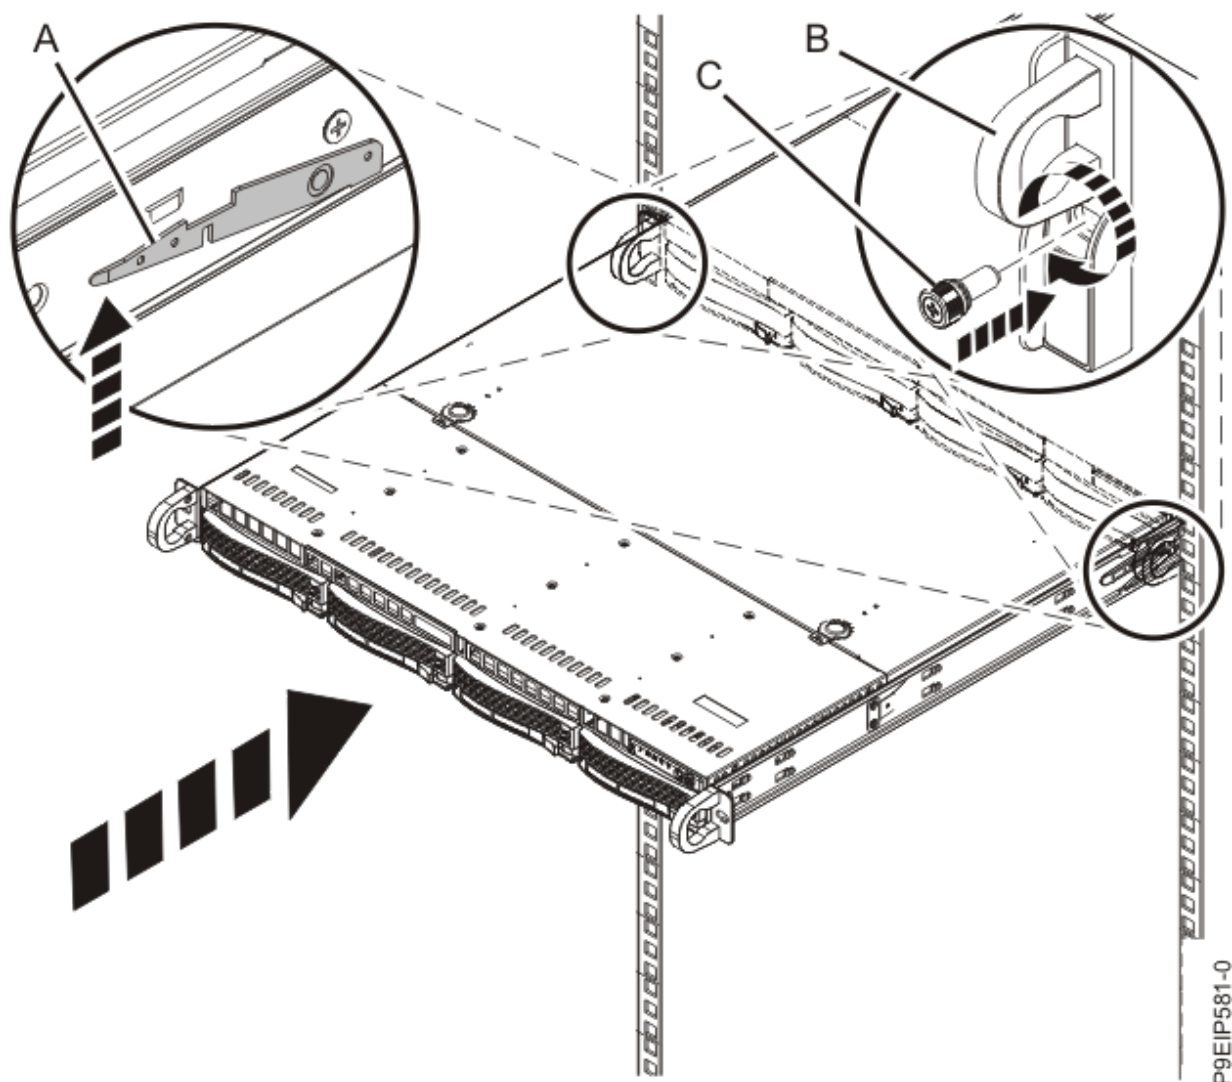

Figure 74. Placing the system into the operating position
5. Release the rail safety latches **(A)**, as shown in Figure 74 on page 97, then push the system fully into the rack by using the handles **(B)**.